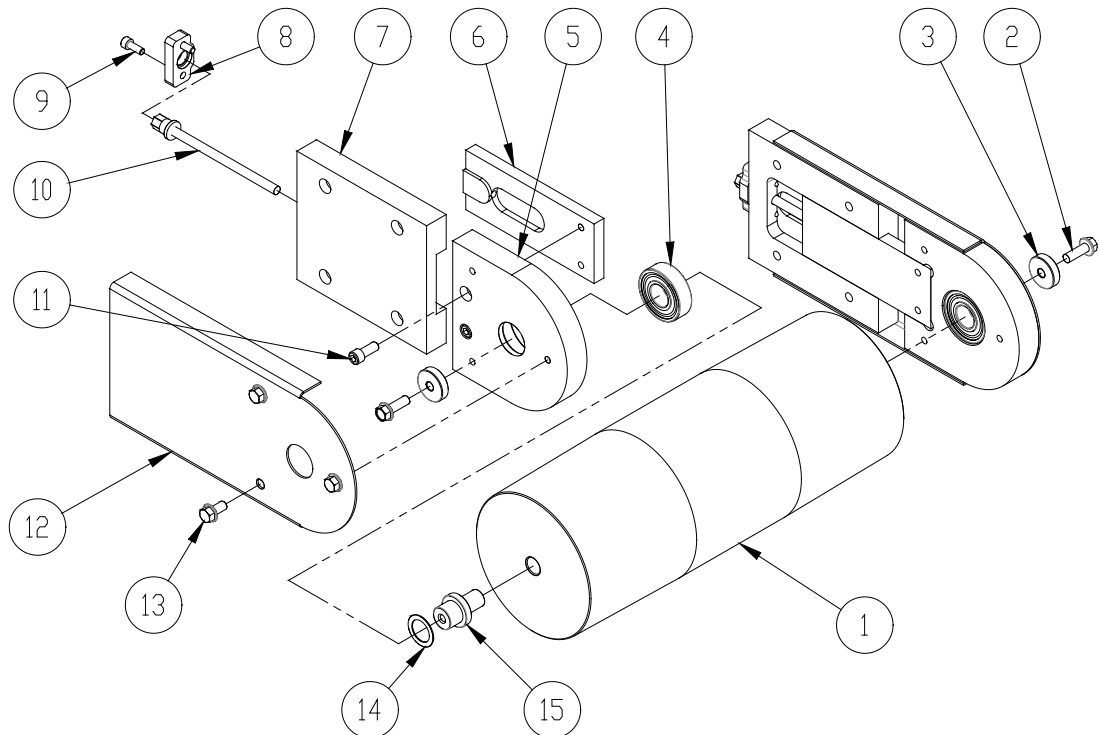

FIGURE 3. TENSION END COMPONENTS
- 3) Using a 3/8" wrench; relieve belt tension by turning the two tension adjustment nuts (item 13, fig. 3) clockwise.
**(REF. FIGURE 3)**